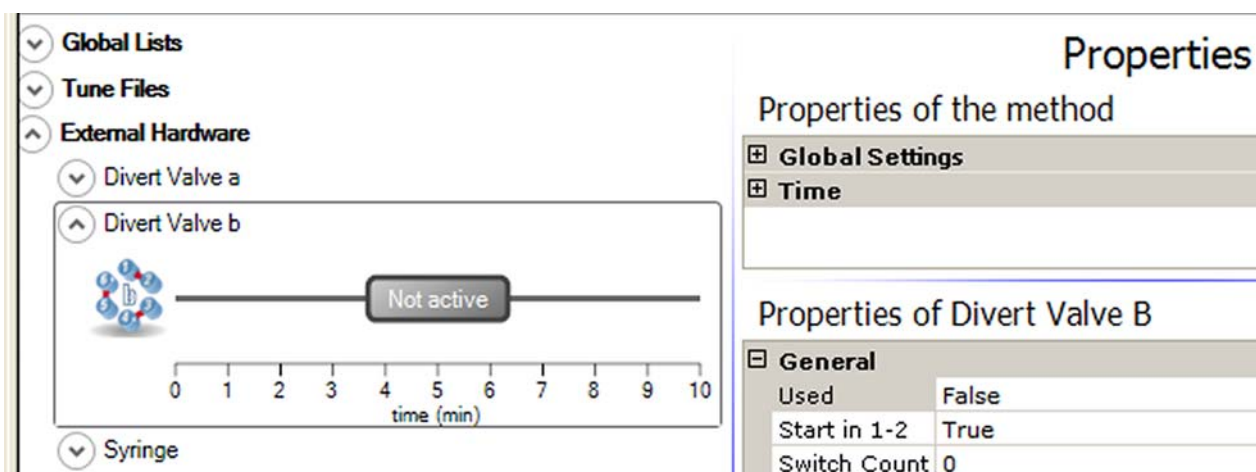

Figure 3-9. Properties of a switching valve that is not used
- Right-click in the pane to display the shortcut menu. Choose **Deactivate**. The blue color changes to a gray color . See Figure 3-9.